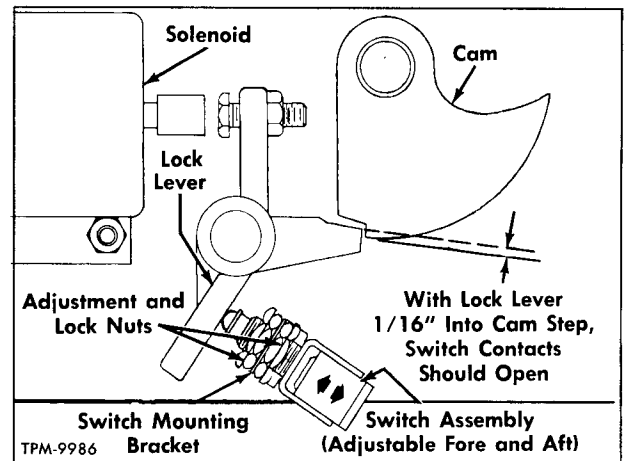

Figure 4—Rear Door Switch Adjustment Points
15. Adjust rear door (micro) switch (15) to break light and interlock circuits when lock cam lever (27) has moved approximately 1/16-inch into the step of lock cam (28) as shown in figure 4. By means of switch mounting nuts, switch can be located fore and aft in mounting bracket as necessary. Secure switch position by tightening lock nuts against mounting nuts.